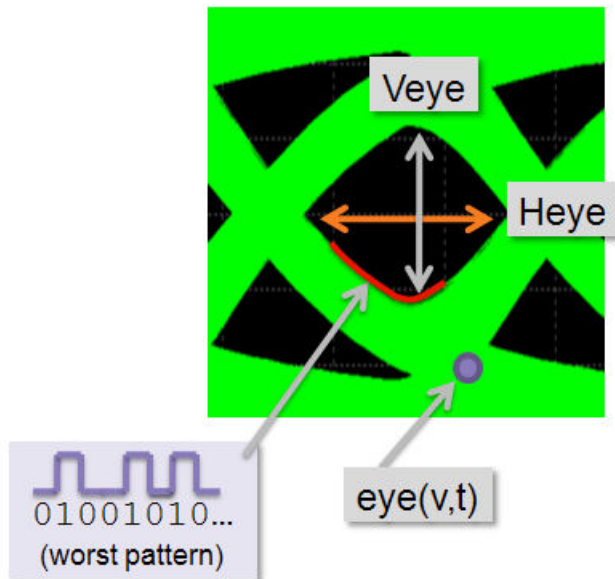

Figure 96 Measurements show Vertical and Horizontal eyes, worst bit pattern, and voltage with time eye
- Measure a bit pattern that produces the worst eye opening at a specified time in a high or low state (See Figure 96 on page 594.)